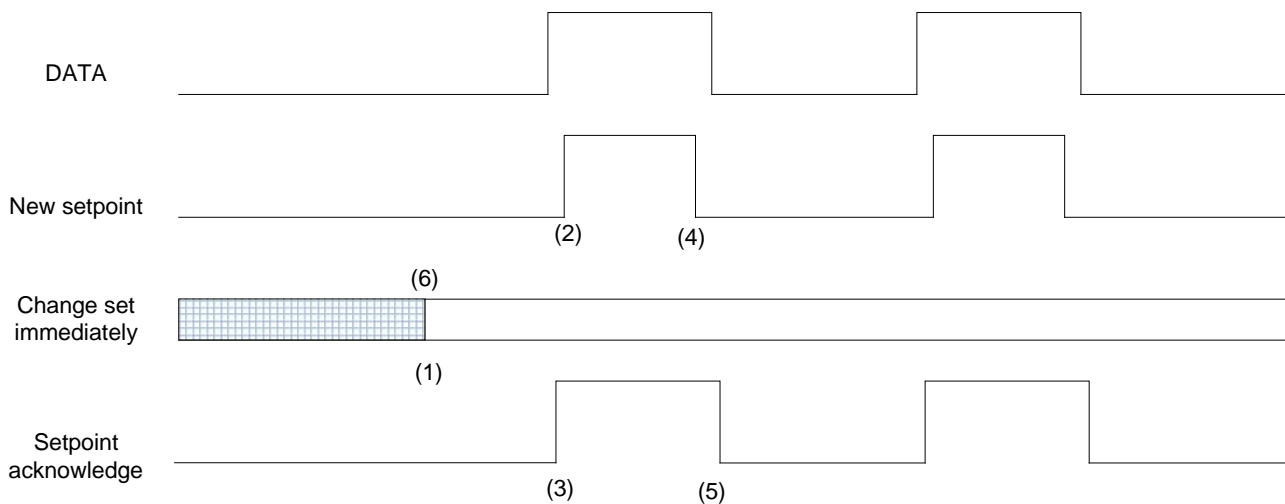
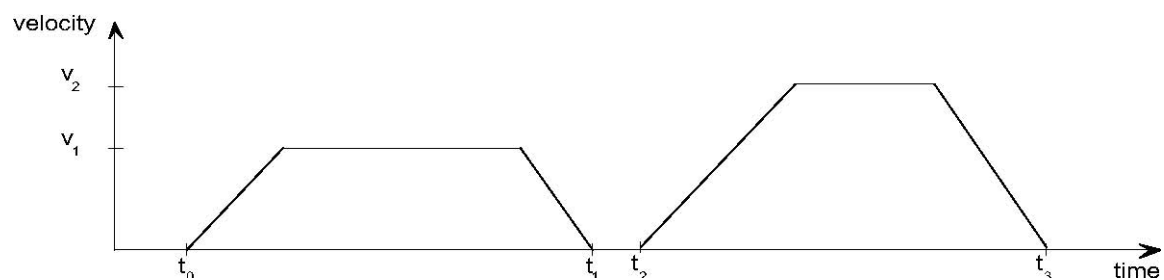

Figure 17: Set-point transmission from a host computer
Figure 18: Single set-point
Figure 17, Figure 18 and Figure 19 show the difference between the "set of set-points" mode and the "single set-point" mode. The initial status of the bit 'change set immediately' in the controlword determines which mode is used. To keep simple these examples, only trapezoidal moves are used.
If the bit 'change set immediately' is "0" (continuously drawn line in Figure 17) a single set-point is expected by the drive (1). After data is applied to the drive, a host signals that the data is valid by changing the bit 'new set-point' to "1" in the controlword (2). The drive responds with 'set-point acknowledge' set to "1" in the statusword (3) after it recognized and buffered the new valid data. Now the host may release 'new set-point' (4) and afterwards the drive signals with 'set-point acknowledge' equal "0" its ability to accept new data again (5). In Figure 18 this mechanism results in a velocity of zero after ramping down in order to reach a target position x_1 at t_1 . After signaling to the host, that the set-point is reached like described above, the next target position x_2 is processed at t_2 and reached at t_3 .
If the bit 'change set immediately' is "1" (dashed line in Figure 17) the new target position will be active immediately. In Figure 19 the drive receives the first target position at t_0 . At the time point t_1 the drive receives a second target position. The drive readapts the actual move to the new target position immediately.